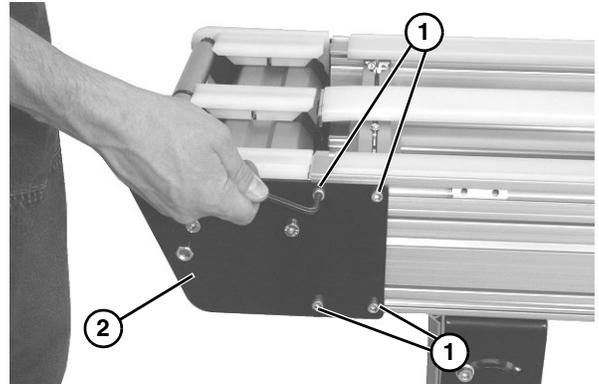

Figure 49
2. On one side of conveyor, loosen the four socket head screws (**Figure 49, item 1**). Repeat on opposite side.
3. Remove idler tail assembly (**Figure 49, item 2**).